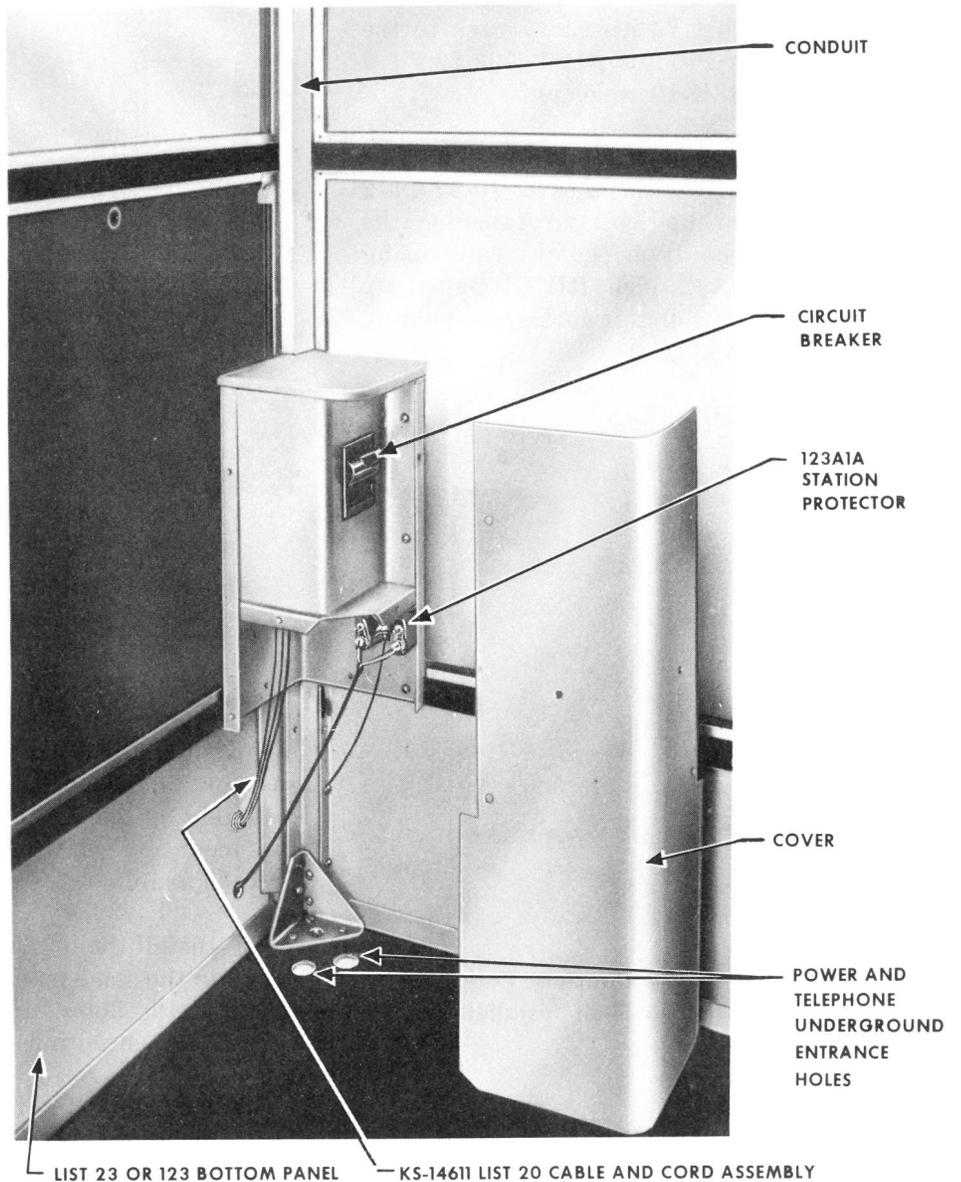

Fig. 8 - KS-14611, List 20 Cable and Cord Assembly (Power Entrance at Bottom of Booth)
6.05 *Outdoor installation, Fig. 8, power may be brought into an outdoor booth from the top*